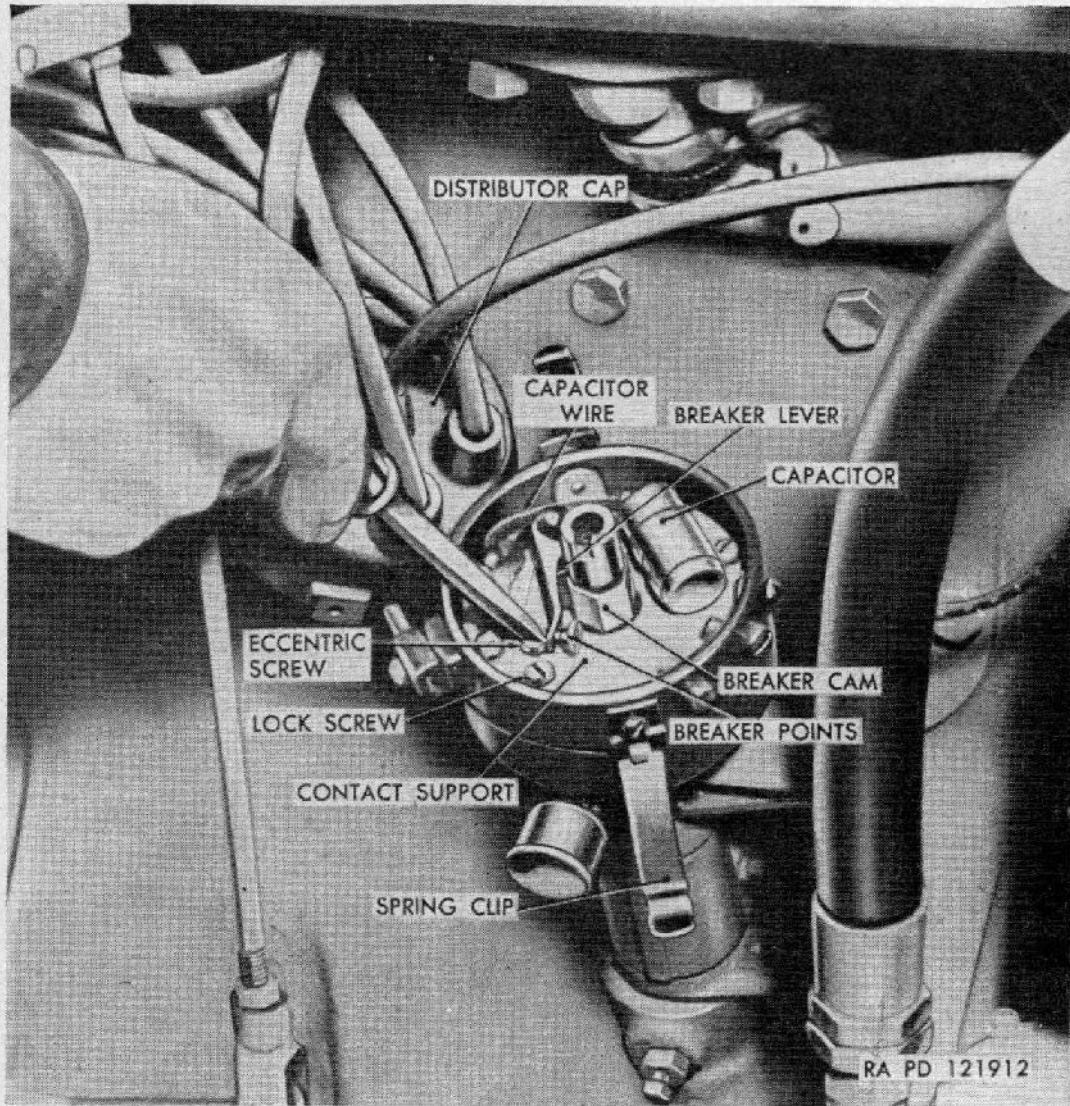
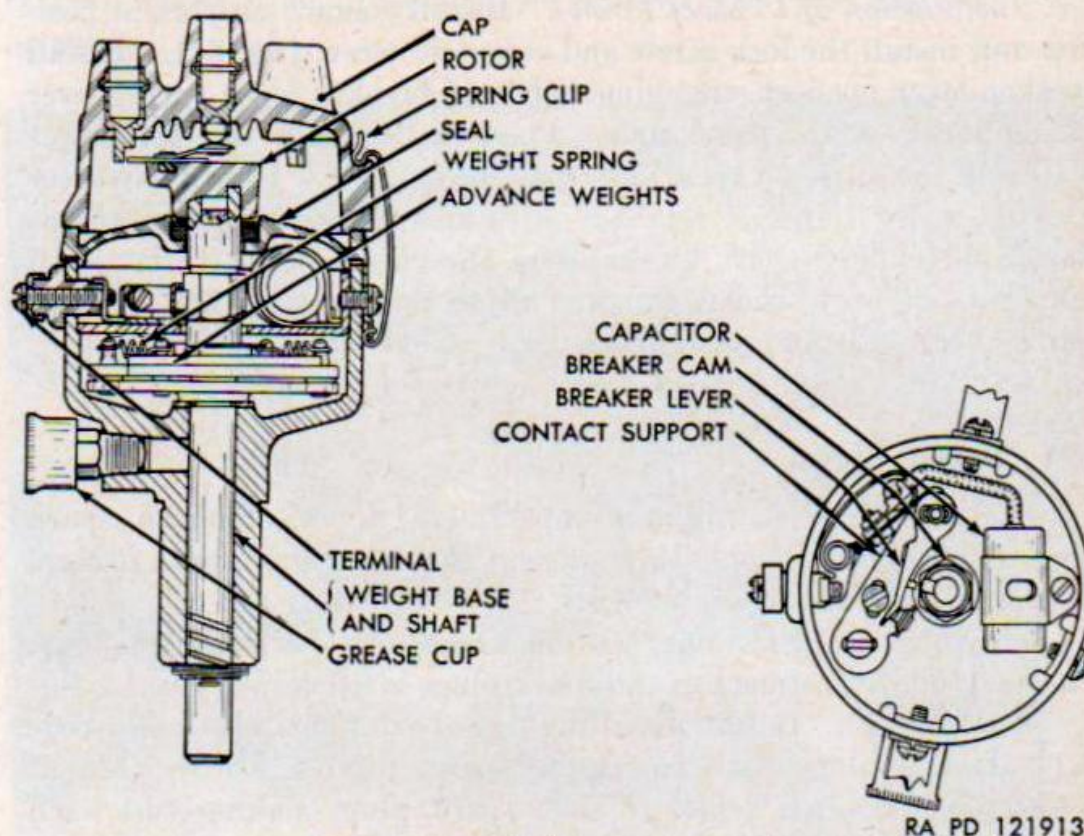

Figure 64. Distributor point adjustment.
Figure 65. Distributor components.
a. Adjustment. Open engine compartment doors. Pull secondary cable from center of the distributor cap. Pry spring clips off cap, and lay cap to one side. Lift the rotor and dust seal off shaft. Crank the engine with starter until a cam on distributor shaft opens breaker points to widest gap. Inspect the points. If points are rough or pitted, replace points (*b* and *c* below). Insert a feeler gage between the points to check gap opening. If more or less than 0.016 inch, loosen lock screw on stationary point (fig. 64). Turn eccentric screw (fig. 64) until a 0.016-inch feeler gage will slip between the points without spreading them, and a slight "drag" is felt on the gage. Tighten lock screw and recheck clearance. Correct if necessary. Install dust seal, rotor, and distributor cap. Close engine compartment doors.
b. Removal of Contact Points and Capacitor. Open engine compartment doors. Pull secondary wire from center of the distributor cap. Pry spring clips off cap, and lay cap to one side (fig. 64). Lift the rotor and dust seal off shaft. Remove lock and eccentric screws (fig. 64). Loosen breaker level spring screw and remove breaker lever retaining clip. Remove breaker level and contact support from distributor (fig. 65). Remove screw securing capacitor to distributor plate and disconnect capacitor wire from contact support screw (fig. 64).
c. Installation of Contact Points. Install contact support in position and install the lock screw and eccentric screw (fig. 64). Install breaker lever on post, engaging notch of breaker lever spring over spring screw at the same time. Position capacitor on distributor plate and install screw securing capacitor to plate. Install capacitor wire on screw. Install retainer clip and tighten spring screw. Rotate distributor shaft by cranking the engine with starter until cam opens points to widest gap, and adjust points (*a* above). Install rotor, dust seal, and distributor cap. Close engine compartment doors.